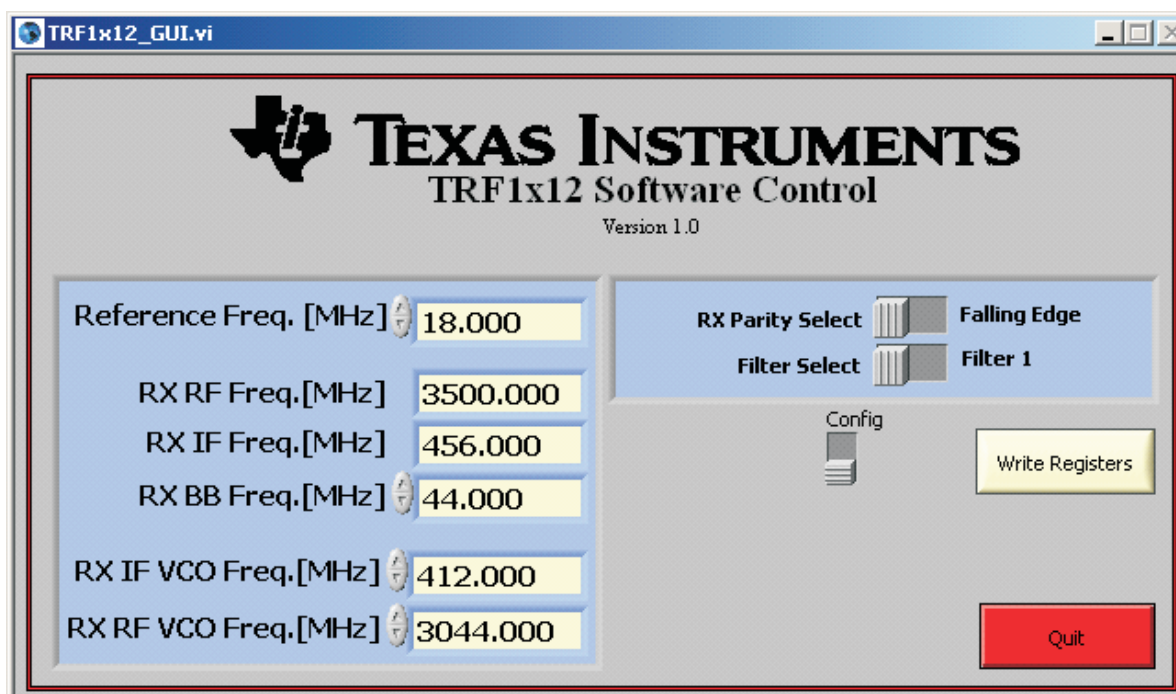

Figure 4. TRF1x12 GUI Front Panel
- The TRF1x12 GUI is launched as seen in Figure 4